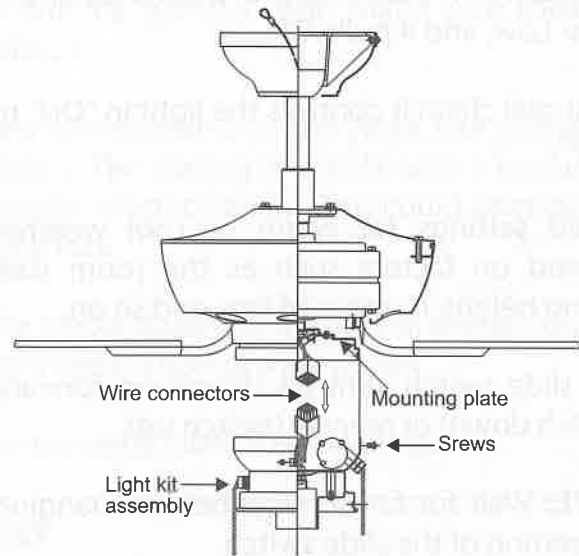

Figure 15
Step 2. While holding the Light kit assembly under your fan, snap together the wire connection plug. (Fig. 15)
Step 3. Install the Light kit assembly onto the mounting plate with 3 screws provided. Be sure to tighten all screws. (Fig. 15)